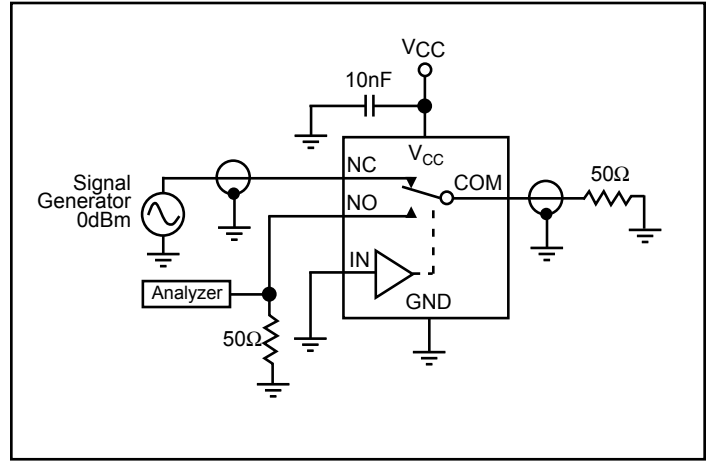

Figure 5. Crosstalk
8. Between any two switches. See Figure 5